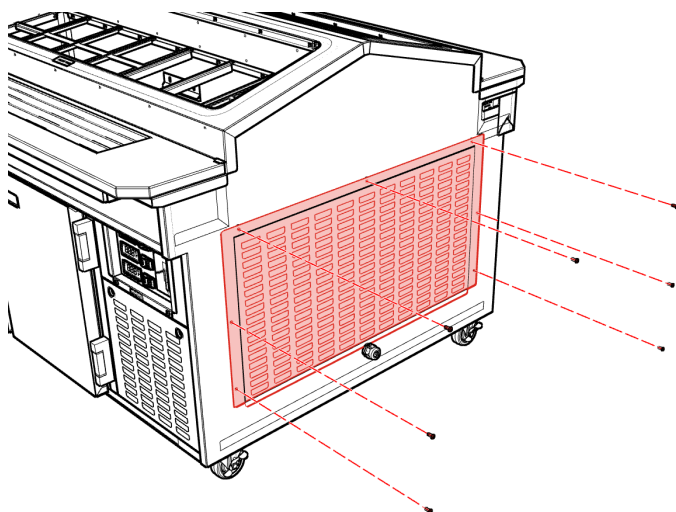

Fig. 35
1. Remove seven (7) M5 × 12 screws fastening side condenser access cover to unit. Drop cover down and away from unit to remove (Fig. 35).